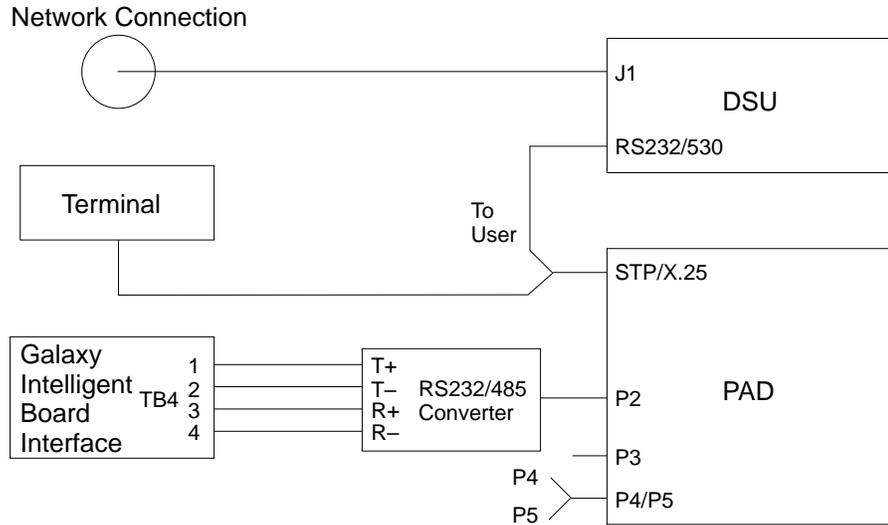

Figure D-1: TL1 Block Diagram
Figure D-1 shows a block diagram of the X.25 connection. The asynchronous connection is accomplished through an RS-485 to RS-232 converter to the Galaxy SC. The synchronous connection to the X.25 network may be user configured as either a permanent virtual circuit (PVC) or as a switched virtual circuit (SVC). Contact your network administrator to determine which type of connection will be provided.
The TL1 port connection should be installed as follows (refer to Figures D-1, D-2, and D-3):
1. Connect the Y-cable labeled "To User" to the connector labeled "STP/X.25" on the back of the PAD unit (see Figure D-1).